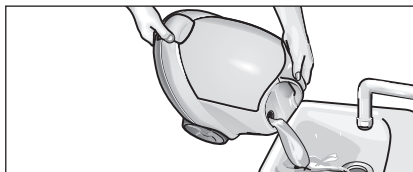

Figure 13: Rinsing the boiler
- Fill the boiler with water and shake it vigorously. This will loose any limescale that has built up on the bottom of the boiler. Tilt the appliance towards the edge with the funnel inlet and pour the water out (see Figure 13).
- Make sure that no water is left in the boiler (see Figure 13).